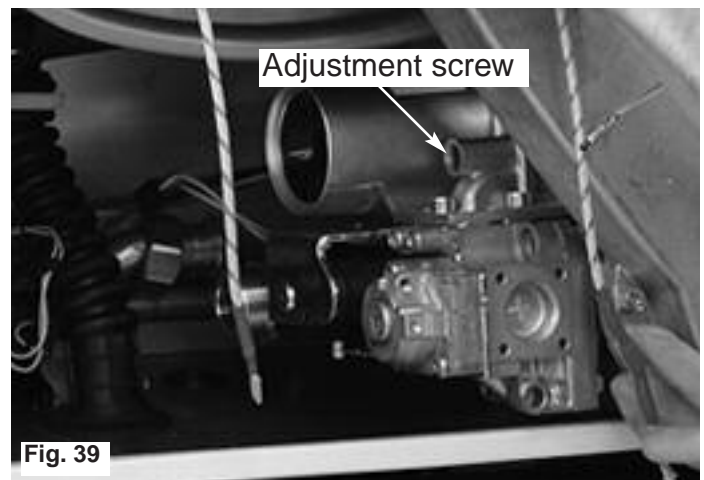

Fig. 39
7. If necessary adjust the screw on the gas valve (Fig. 39) to set the CO₂ to 8.9% +/- 0.2% (NG) or 9.7% +/- 0.2% (LPG);
8. Press the setting button  once to set the combustion control rate mode to minimum, and, if necessary, adjust the screw on the gas valve to set the CO₂ to 8.9% +/- 0.2% (NG) or 9.7% +/- 0.2% (LPG);
9. Press the setting button  again to set the combustion rate control mode to maximum and if necessary adjust the screw on the gas valve to set the CO₂ to 8.9% +/- 0.2% (NG) or 9.2% +/- 0.2% (LPG);